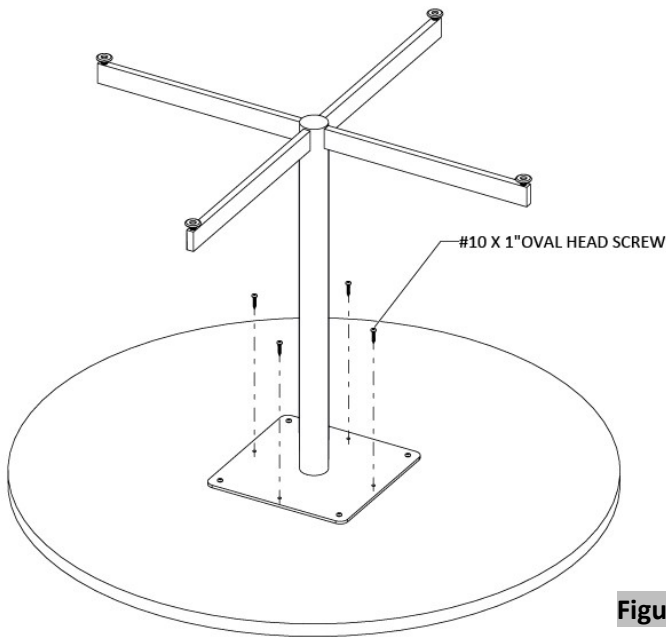

Figure 3
- 3. Drive four more screws to round table top using #10 X 1” Oval Head Screws, (Figure 3).